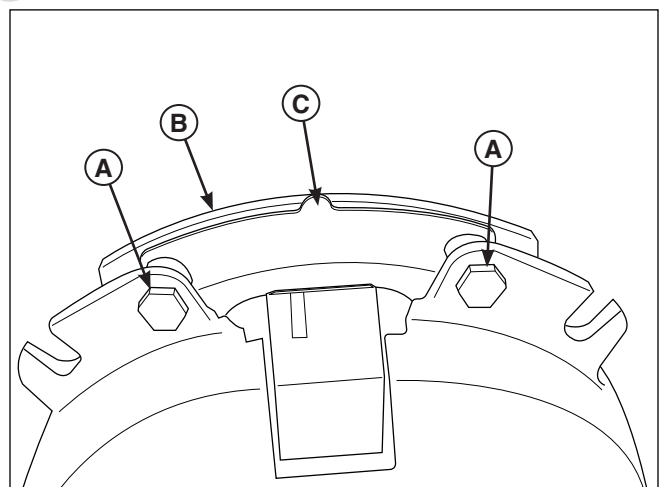

Figure 48. PTO Clutch Adjustment
1. Loosen both brake mounting bolts (A, Figure 48) 1/2 to 1 full turn as shown in Figure 48.
**IMPORTANT NOTE:** Do not remove the brake pole (B, Figure 48) from the clutch. The brake pole must remain in the correct position to ensure proper brake torque.